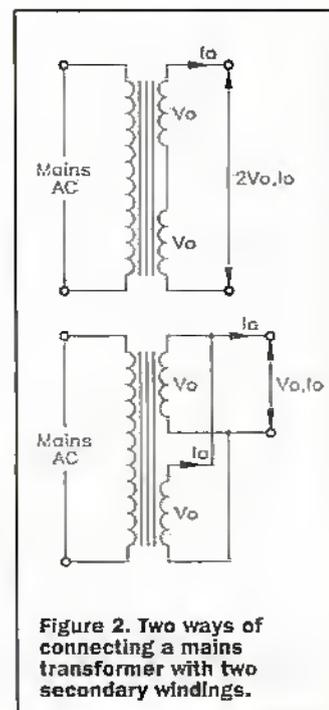

Figure 2. Two ways of connecting a mains transformer with two secondary windings.
single primary winding which carries the mains input voltage and two secondary windings, which carry to the stepped-down voltage. The secondary windings can be connected in series or parallel as shown in Figure 2, to provide a higher voltage or current output.
by the 255 detectors. A measurement is taken from every combination of optical-fibre end and detectors. These measurements are used for a reconstruction of the 3D image, more or less in the same way as Computer Topography (CAT). 3D scans are reconstructed from slices. The scattering of the tissue is modelled, and corrections to the image are applied. 3D images can be constructed by stacking 2D slices as the low scattering confines the effect of the tissue mainly within one slice. In figure 2 cross-sections through a breast with a tumour about 2cm across is shown. This diagnosis has been confirmed by X-ray.
**Figure 2** Three orthogonal cross-sections through a breast with a tumour. Optical images were taken at 780nm with the cancer (carcinoma) showing red in the woman's breast. Pictures courtesy of Philips Research.